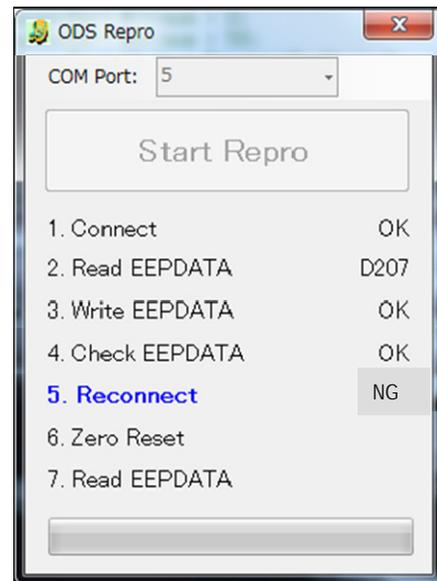

Figure 14
- If the OCS reprogramming stops (displays NG) at item 5, 6 or 7, refer to Figures 14 through 15 on pages 10 and 11.